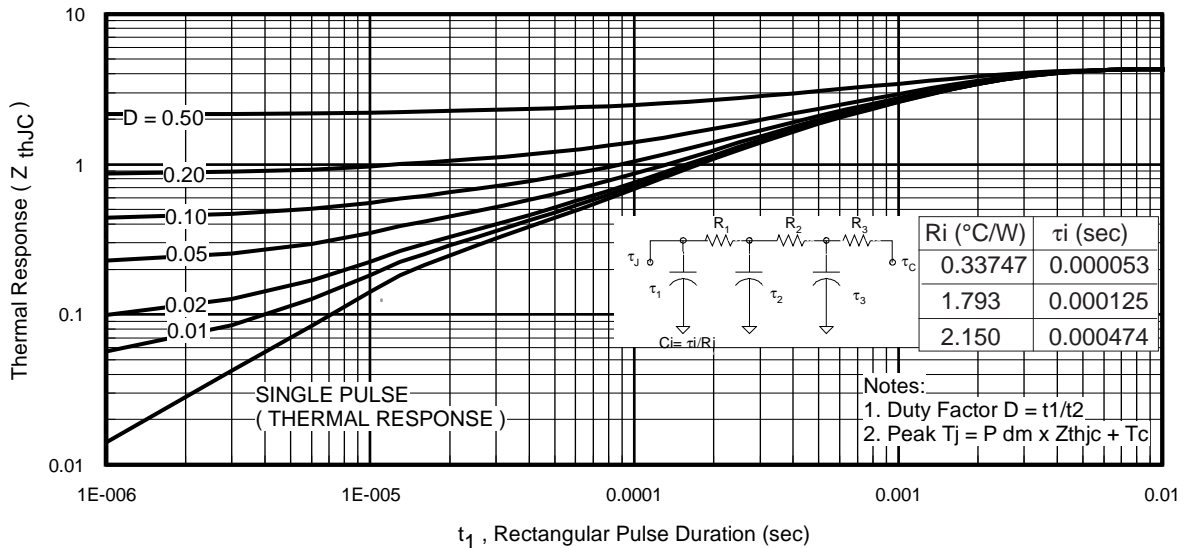

Fig 11. Maximum Effective Transient Thermal Impedance, Junction-to-Case
$Z_{thJC}(D, t_{av})$ = Transient thermal resistance, see figure 11)
- ① Repetitive rating; pulse width limited by max. junction temperature. (See fig. 11).
- ② Limited by T_{Jmax} , starting $T_J = 25^\circ C$, $L = 1.29mH$, $R_G = 25\Omega$, $I_{AS} = 5.2A$, $V_{GS} = 10V$. Part not recommended for use above this value.
- ③ Pulse width $\leq 1.0ms$; duty cycle $\leq 2\%$.
- ④ C_{OSS} eff. is a fixed capacitance that gives the same charging time as C_{OSS} while V_{DS} is rising from 0 to 80% V_{DSS} .